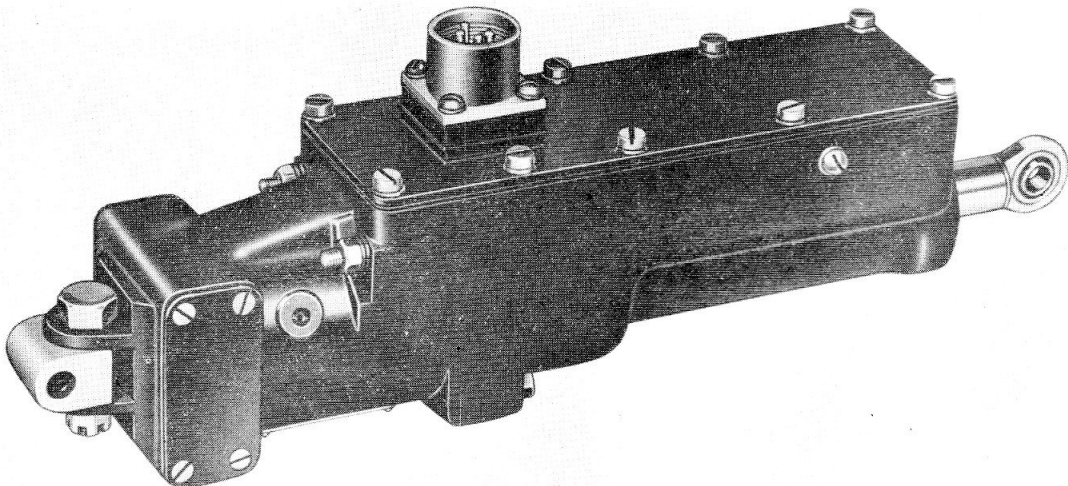

Fig. 1. Typical actuator, A0900 series
2. The A0900 series actuators, of which a typical machine is shown in fig. 1 and 2, are of in-line construction and in general comprise five main assemblies. They are motor, brake and clutch, gearbox, ram and screwshaft, and limit switches, of these all except the limit switches are disposed on the motor/ram axis. The limit switches are located in a housing parallel with the ram and screwshaft but offset. Except for a trunnion shackle and a 4-pole plug which are mounted externally, the main assemblies are contained by two castings.